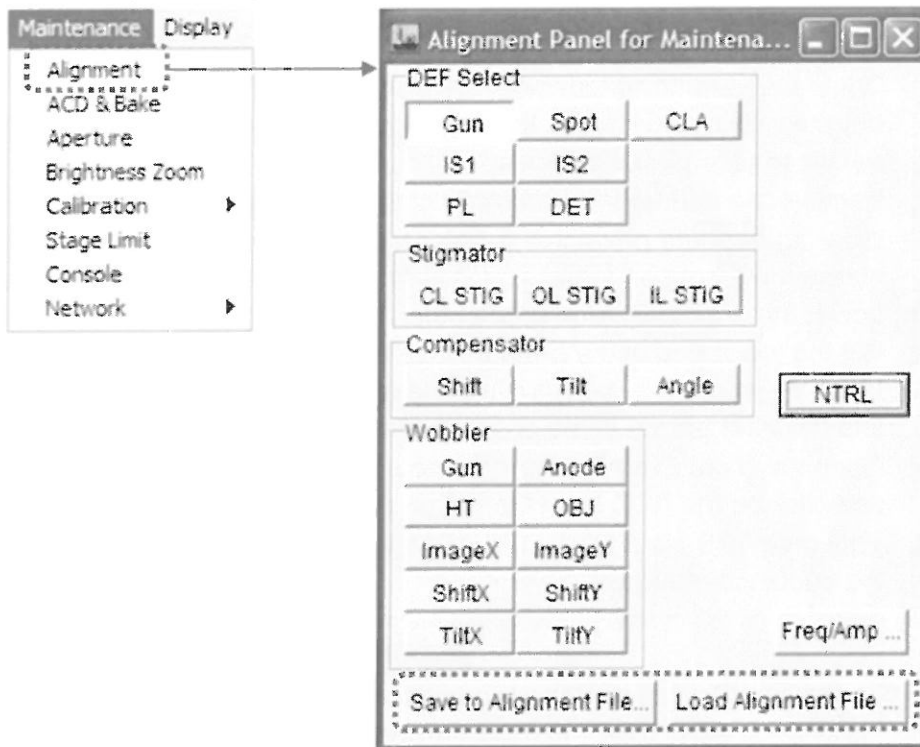

Fig. 5.69 Alignment Panel for Maintenance window
- ✎ The areas circled with a dotted line in the figure will be used for subsequent operations (Fig. 5.69).